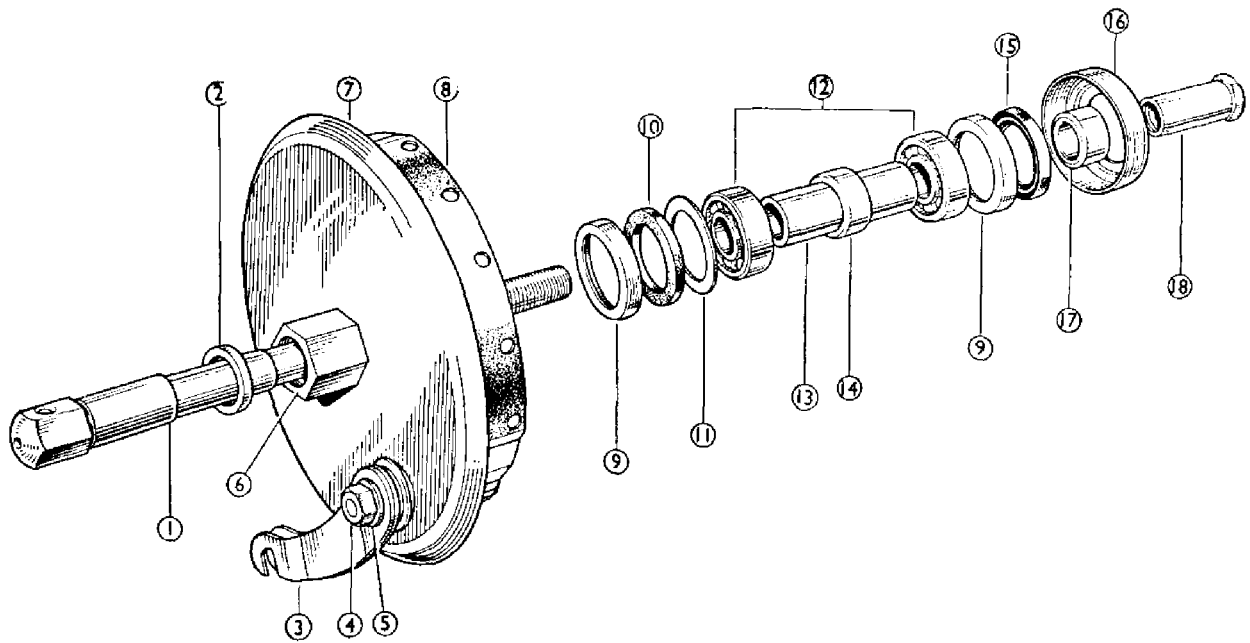

FIG. 87
Front wheel (1959 Model) (Fig. 87). Remove the brake cover plate assembled, then knock out the wheel spindle which will eject the bearing (18), the oil seal (16) and cup (14).